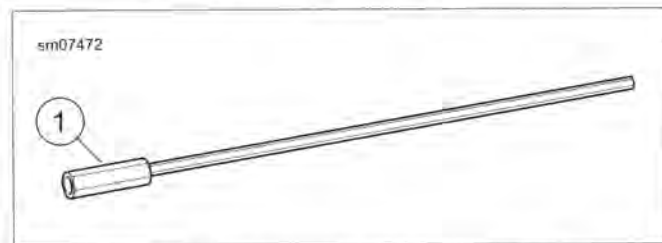

Figure 2-97. Damper Rod Extension Tool
8. Loosen length adjustment screw (2) to release tension on fork spring. Loosen retaining pins. Remove spring compressor collar (4). Remove spring seat and flat washer.
10. Obtain damper rod extension tool from FORK SPRING COMPRESSING TOOL (Part No. HD-45966) shown in Figure 2-97. Install extension tool onto end of damper rod.
12. See Figure 2-97. Remove extension tool from damper rod. Install fork spring back into fork tube.